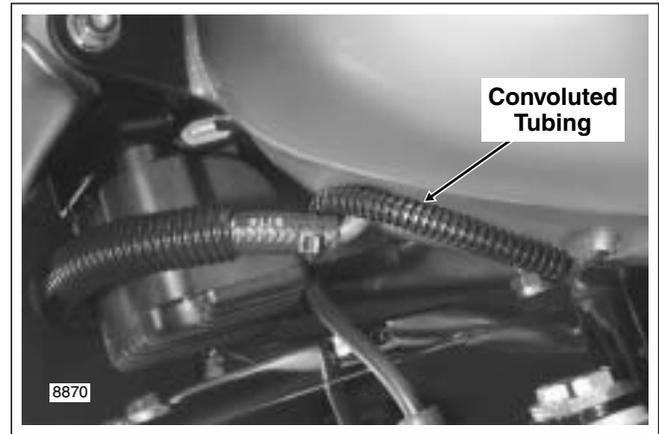

Figure 4-20. Fuel Gauge (FLHR/S)
13. Connect fuel gauge to main harness. Route pin housing and convoluted tubing forward and then inboard between front of crossover hose fitting and bottom of fuel tank. Mate pin and socket halves of fuel gauge connector [117], 4-place Multilock. Feed connector into tunnel of fuel tank. See Figure 4-20.
- Connect fuel gauge to main harness. Route pin housing and convoluted tubing forward and then inboard between front of crossover hose fitting and bottom of fuel tank. Mate pin and socket halves of fuel gauge connector [117], 4-place Multilock. Feed connector into tunnel of fuel tank. See Figure 4-20.